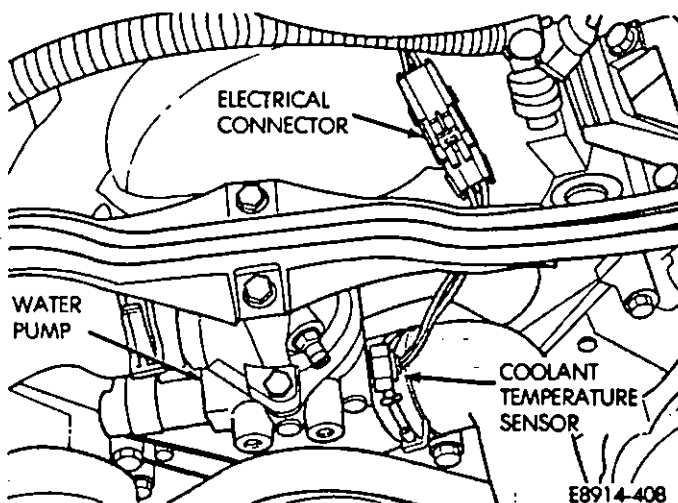

Fig. 34—Coolant Temperature Sensor
(25) Verify that the coolant temperature sensor electrical connector is connected to the sensor (Fig. 34). Inspect the sensor and connector for corrosion.